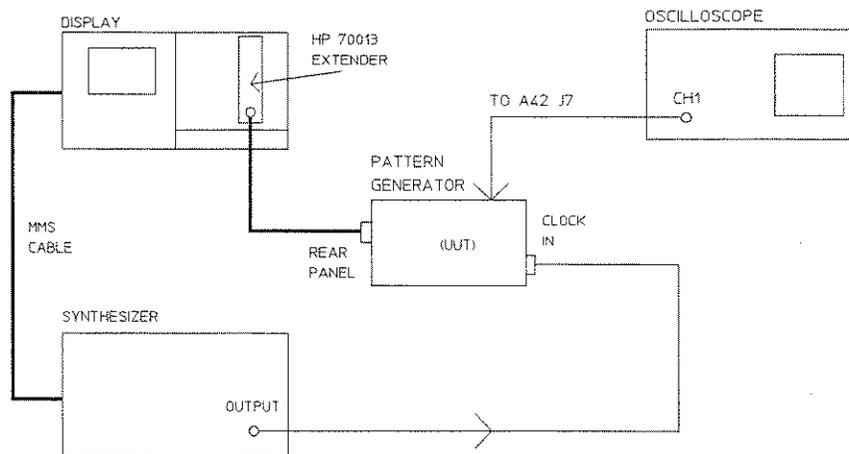

Figure 4-2. Clock AGC Waveform Measurement Equipment Hook-up.
8. Re-connect the equipment as shown in Figure 4-2.